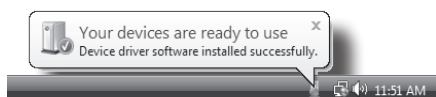

Figure 2
2. When it is finished installing the drivers, it will say "Your new hardware is installed and ready to use" (Figure 2). This balloon will not pop up again for the same USB port.